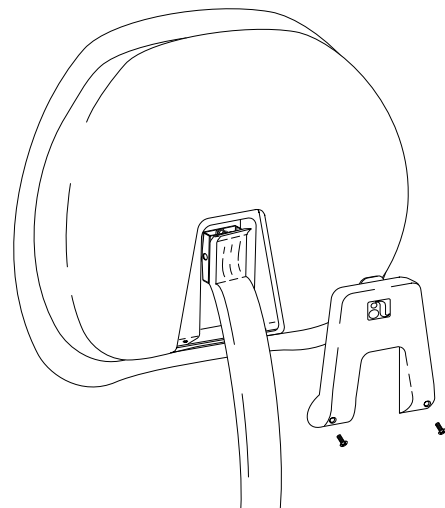

FIGURE 5
- Insert the tab on the back cover trim into the slot in the back upholstery assembly. Install the two (2) screws used to retain the cover (see Figure 5).